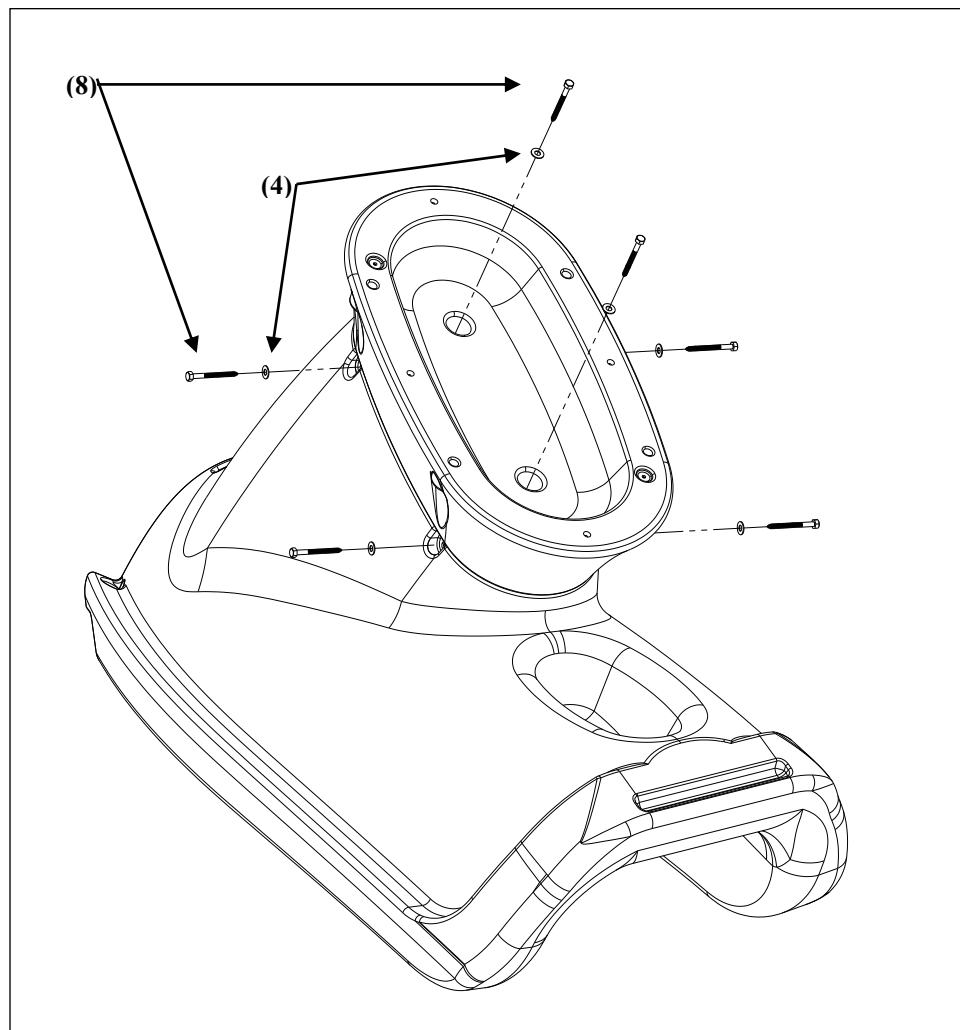

FIGURE 4
- 1) Assemble the pedestal part to the runway exit section as shown in Figure 4. Attach the pedestal part to the runway exit section by inserting the two lag screws into the holes located in the bottom of the pedestal.